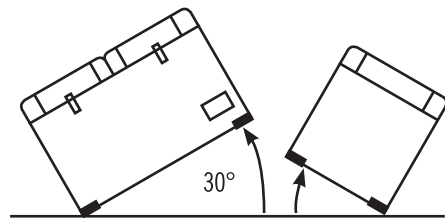

Fig. 2
The cooling system has been designed to operate correctly when the appliance is positioned on angles up to  $30^{\circ}$  degrees. It is recommended that the time the unit is exposed to angles over  $30^{\circ}$  degrees is limited to a maximum of four (4) hours continuous operation. (Fig. 2).